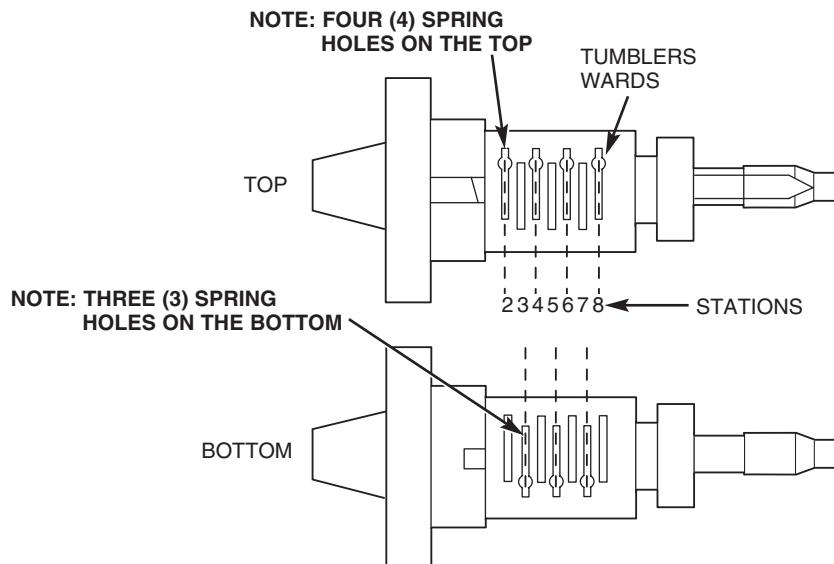
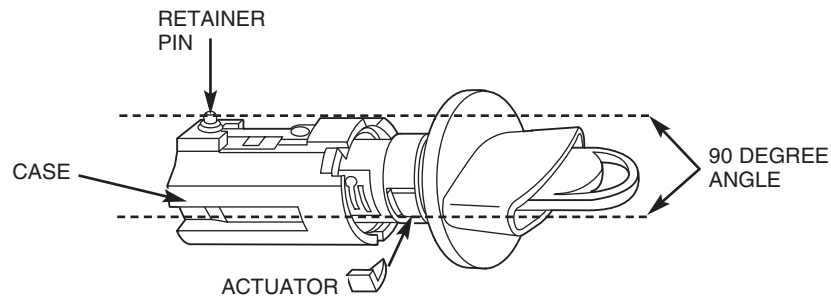
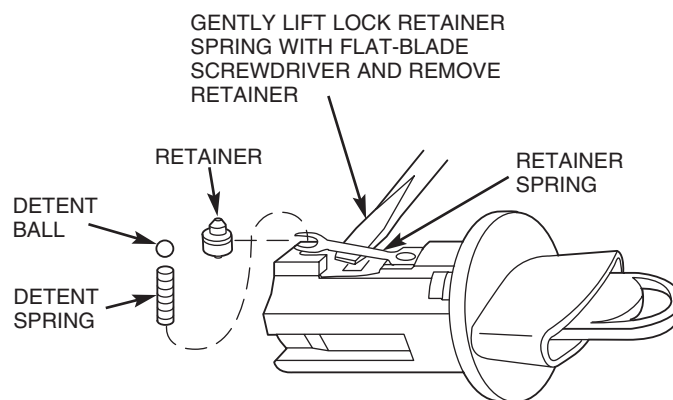

FIGURE 3
FIGURE 4
FIGURE 5
3. Insert one tumbler spring (C) into each of the holes located at the end of the tumbler wards on the lock cylinder (D).
4. Insert the required tumblers (B1, B2, B3, B4, or B5) into the tumbler wards in the proper orientation (refer to Figure 3), and in the sequence that match the key cut depths, for key stations 2, 3, 4, 5, 6, 7, and 8.
6. With the key in the lock cylinder, apply the included grease (E) to the tumbler wards ONLY.
7. Insert the actuator (G) into the cavity in the orientation and at the location shown in (Figure 4).
8. With the key in the lock cylinder, insert the lock cylinder into the lock case (F).
10. Use a small flat-blade screwdriver to gently lift the lock retainer spring and remove the lock retainer pin (H) (refer to Figure 5). Look into the location where the retainer pin (H) once was. Rotate the lock cylinder (D) to reveal a round hole approximately 3mm in diameter.
11. Insert the detent spring (I) into the round hole identified in Step 10.
12. Insert the detent ball (J) into the round hole identified in Step 10.
13. Use a small flat-blade screwdriver to gently lift the lock retainer spring and re-install the lock retainer pin (H).
14. Look into the back of the lock, press the lock retainer pin (H) down and rotate the lock cylinder (D) 1/2 a revolution clockwise to set the detent ball (J) in place.